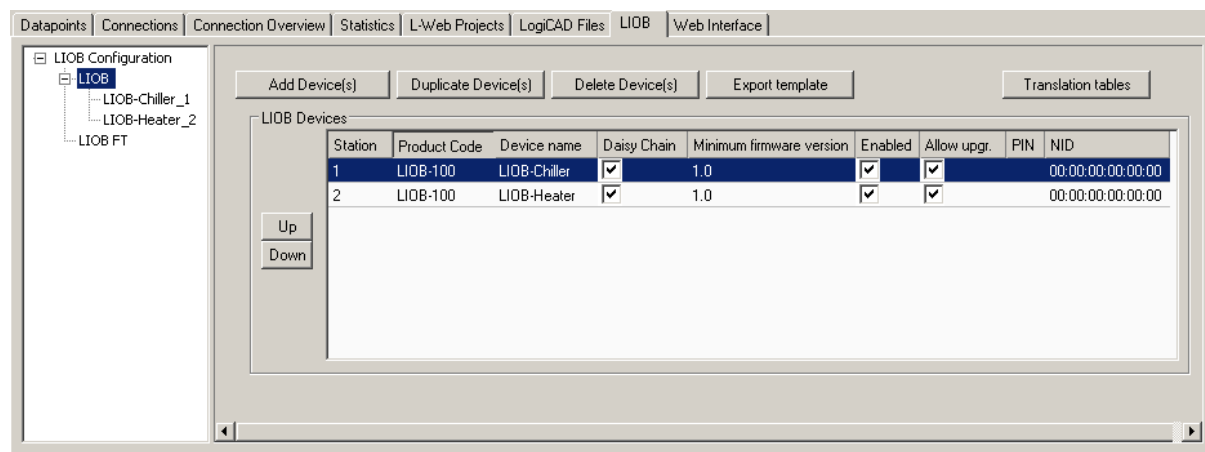

Figure 9: Add LIOB devices to the LIOB-Connect bus.
1. Start the L-INX Configurator software by selecting Windows **Start → Programs → LOYTEC LINX Configurator → LOYTEC LINX Configurator**. The application starts up and displays the data point manager screen as shown in Figure 9.
2. When the device is online, connect to the device by clicking on the FTP connect speed button as indicated by the red rectangle in Figure 9.